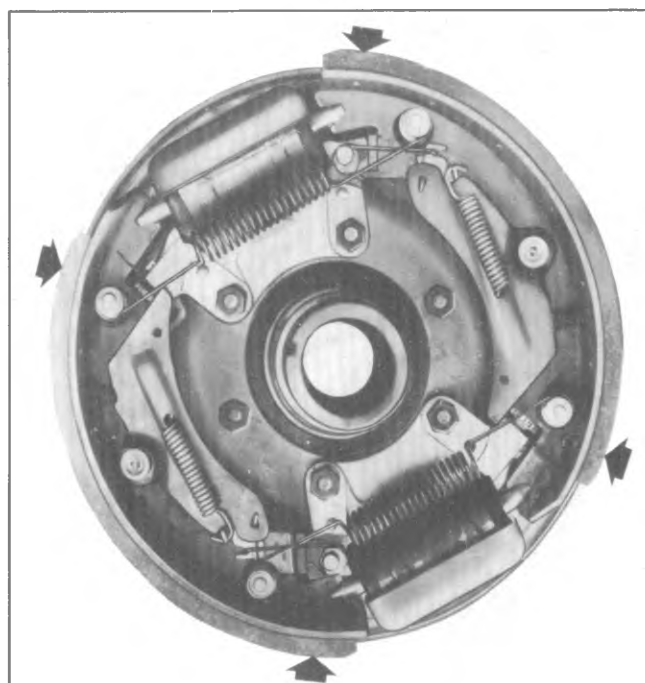

Fig. 5-51--Measuring Points for Shoe Centering
9. Check the brake shoes for being centered by measuring the distance from the lining surface to the edge of the flange plate at the points shown in Figure 5-51. To center the shoes, tap the upper or lower end of the shoes with a plastic mallet until the distances at each end become equal.